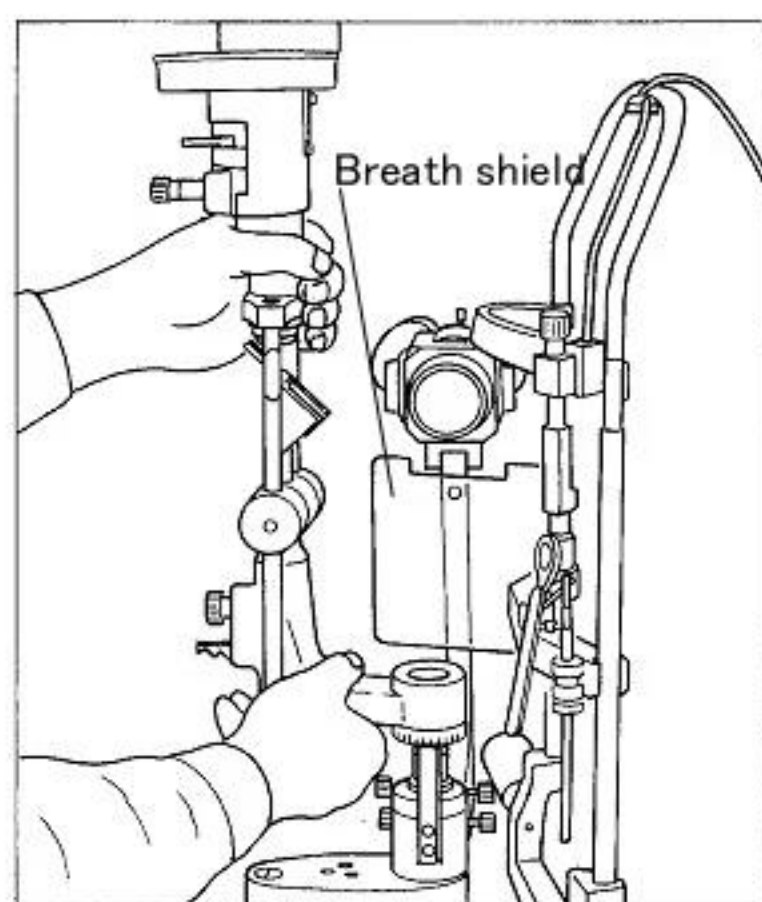

Fig. 14: Installing Illumination unit
- 4) Attach Illumination unit to the shaft on the base sliding it carefully(Fig. 14.)
(Fig. 14)